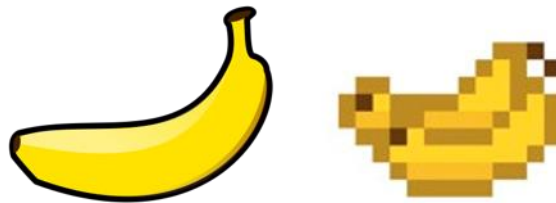

Figure 2: Bananas
- b. Secondly, **images of items you are selling**. Your POS screen must include 12 items being half of them already defined as **banana, potato, tomato, peach, apple, pineapple**. You are free to choose the image resembling your item. For instance, you might show a green or red apple to resemble apple. Furthermore, you are free to either show high quality images or colored hand drawn bitmap images like in the Figure 2. Remaining six items are to be defined by yourself. Any items to be sold in a grocery like fruits, vegetables etc. are welcomed. However, please do **not** include alcoholic beverages, tobacco products, pork products, any illegal, inappropriate, or disputed item in your project to avoid an undesired sociological problem. Doing so will be **penalized strictly**.